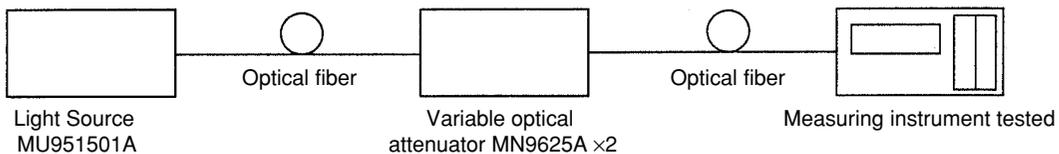

Fig. 5-4
1. Set up a measurement system like that shown in Fig. 5-4.